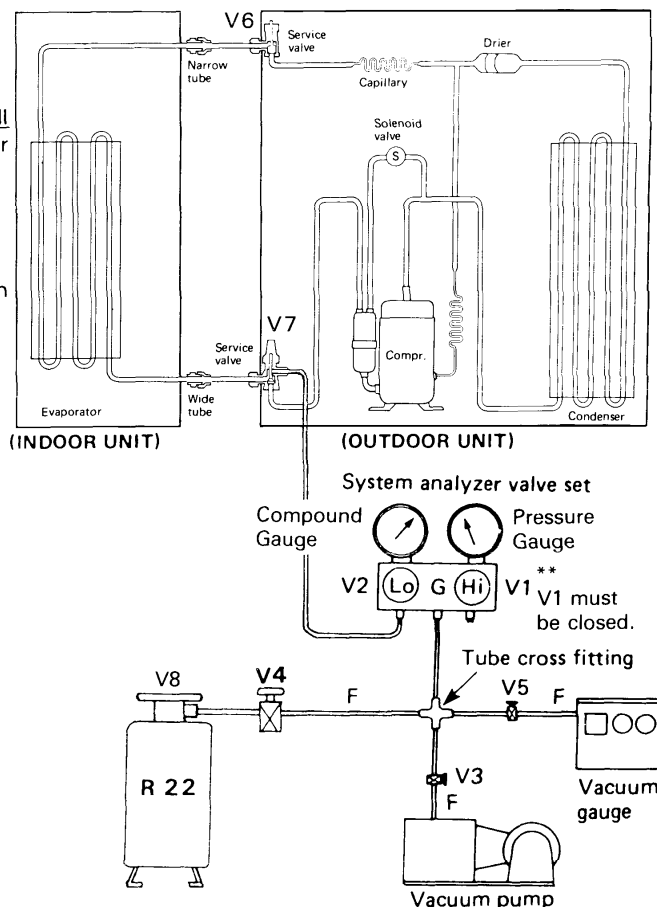

Fig. 21
- 2) Confirm that both Narrow Tube and Wide Tube service valves on the outdoor unit **V6** and **V7** are fully opened, and other valves are still closed. (Refer to Fig. 21)
- 1) Connect instrument as in Fig. 21.